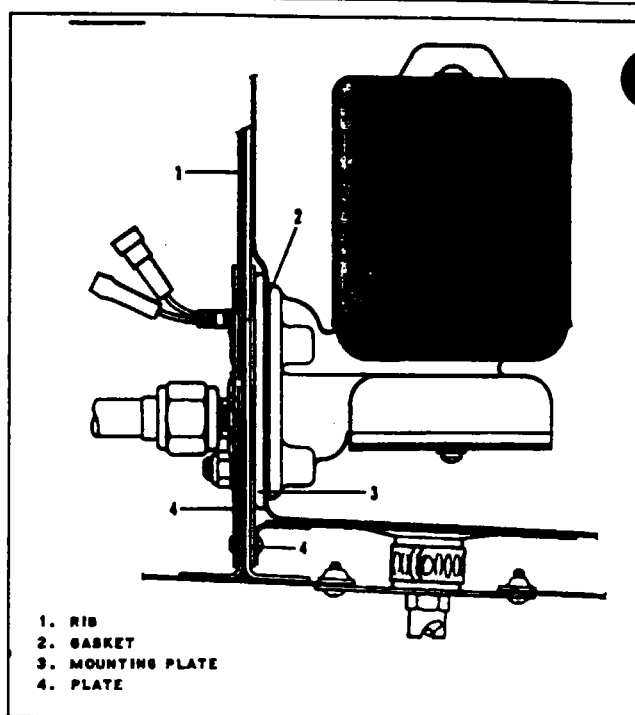

Figure 9-7. Installation Of Submerged Fuel Pump (Boost)
- m. Install the submergible fuel pump into the cell and secure in accordance with Figure 9-7.